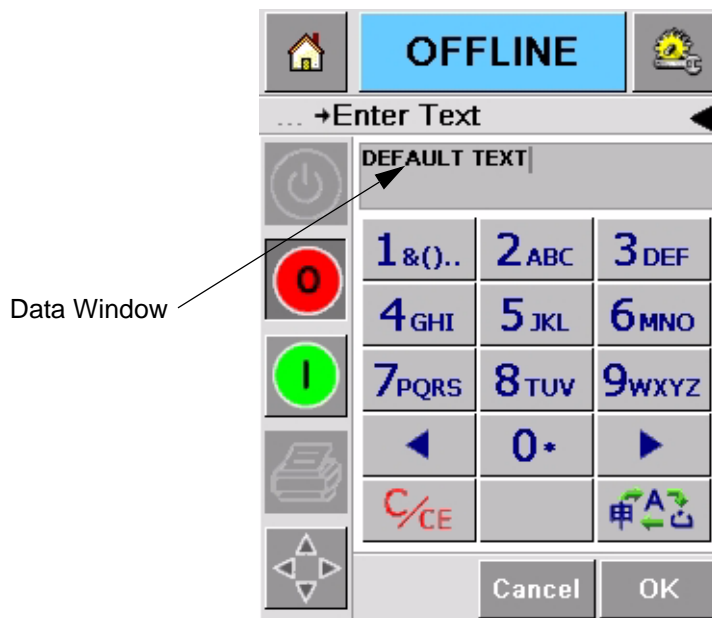

Figure 4-7: Default Data Window
- 1** Touch the required job variable from the list to select it (the first one in the list is automatically selected). The default data for that job variable appears in the data window (Figure 4-7 on page 4-6).